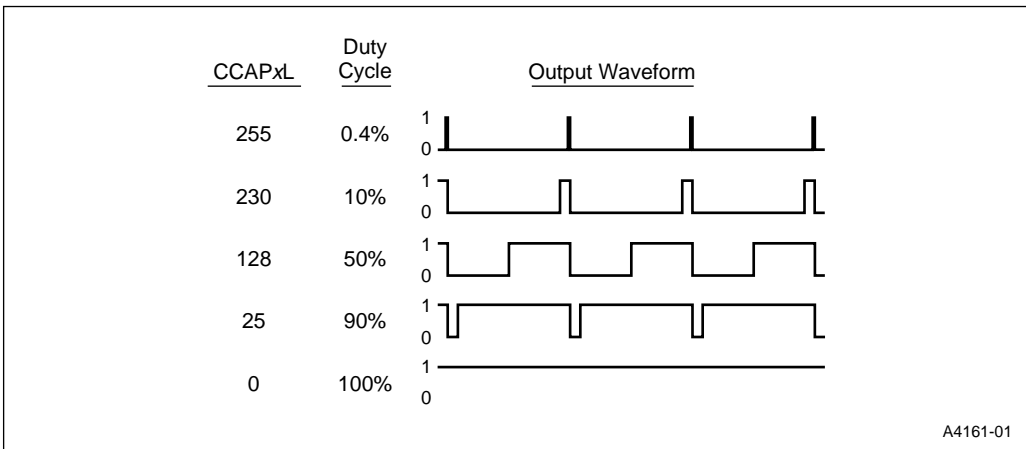

Figure 8-6. PWM Variable Duty Cycle
In this mode the value in the low byte of the PCA timer/counter (CL) is continuously compared with the value in the low byte of the compare/capture register (CCAP_xL). When $CL < CCAP_xL$, the output waveform (Figure 8-6) is low. When a match occurs ($CL = CCAP_xL$), the output waveform goes high and remains high until CL rolls over from FFH to 00H, ending the period. At roll-over the output returns to a low, the value in CCAP_xH is loaded into CCAP_xL, and a new period begins.
The value in CCAPxL determines the duty cycle of the current period. The value in CCAPxH determines the duty cycle of the following period. Changing the value in CCAPxL over time modulates the pulse width. As depicted in Figure 8-6, the 8-bit value in CCAPxL can vary from 0 (100% duty cycle) to 255 (0.4% duty cycle).